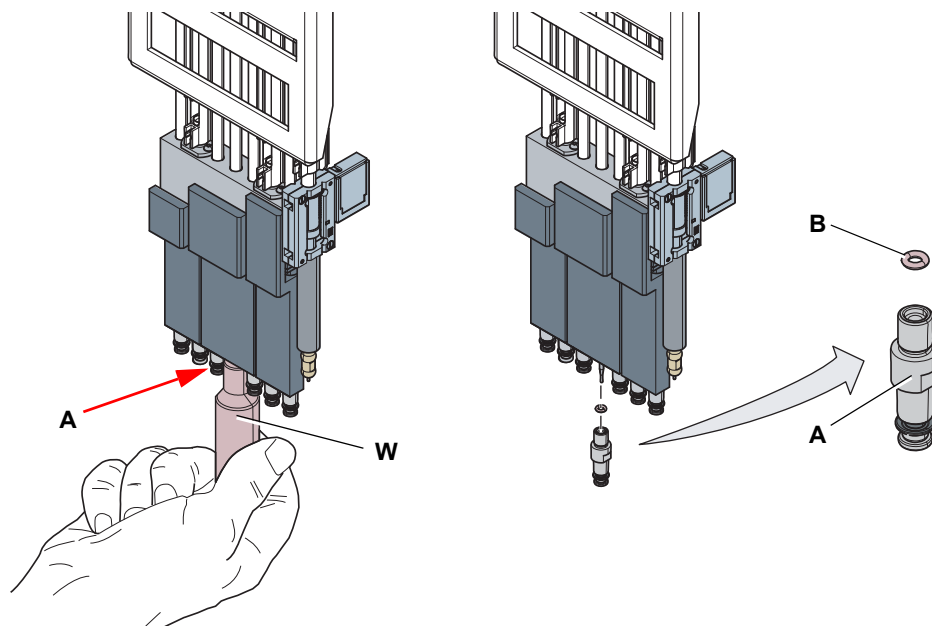

Fig. 7-7 7-tip array, DiTi cone removal
- 3 Remove the DiTi cone (A) and the O-ring (B) with the DiTi cone key (W) Fig. 7-7 , Fig. 7-18.
- 4 Discard the O-ring (B) Fig. 7-7 , Fig. 7-18.